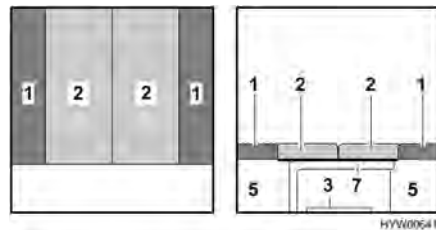

Fig. 44 After conversion
- Insert the back cushions (Fig. 44,1) between the seat cushions (Fig. 44,2) and the exterior wall.
- Push the table-top (Fig. 44,3) under the bed.